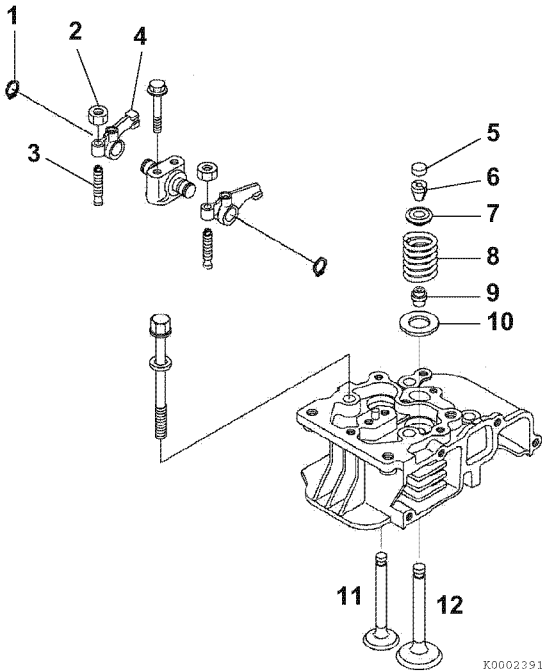

Figure 6-21
3. Place the valves (11, 12, **Figure 6-21**) in their proper locations in the cylinder head.
- Place the cylinder head on the workbench with the combustion side down. Install the washer (10, **Figure 6-21**), valve spring (8, **Figure 6-21**) and spring retainer (7, **Figure 6-21**).
- Insert the valve keepers (6, **Figure 6-21**) and slowly release the tension on the valve spring. Install the valve cap (5, **Figure 6-21**). Repeat the steps on the remaining valve.
- Install the rocker arms (4, **Figure 6-21**) on the rocker shaft. Secure with a snap ring (1, **Figure 6-21**) on each end. If removed, install the adjuster screws (3, **Figure 6-21**) and locknuts (2, **Figure 6-21**) in each rocker arm.